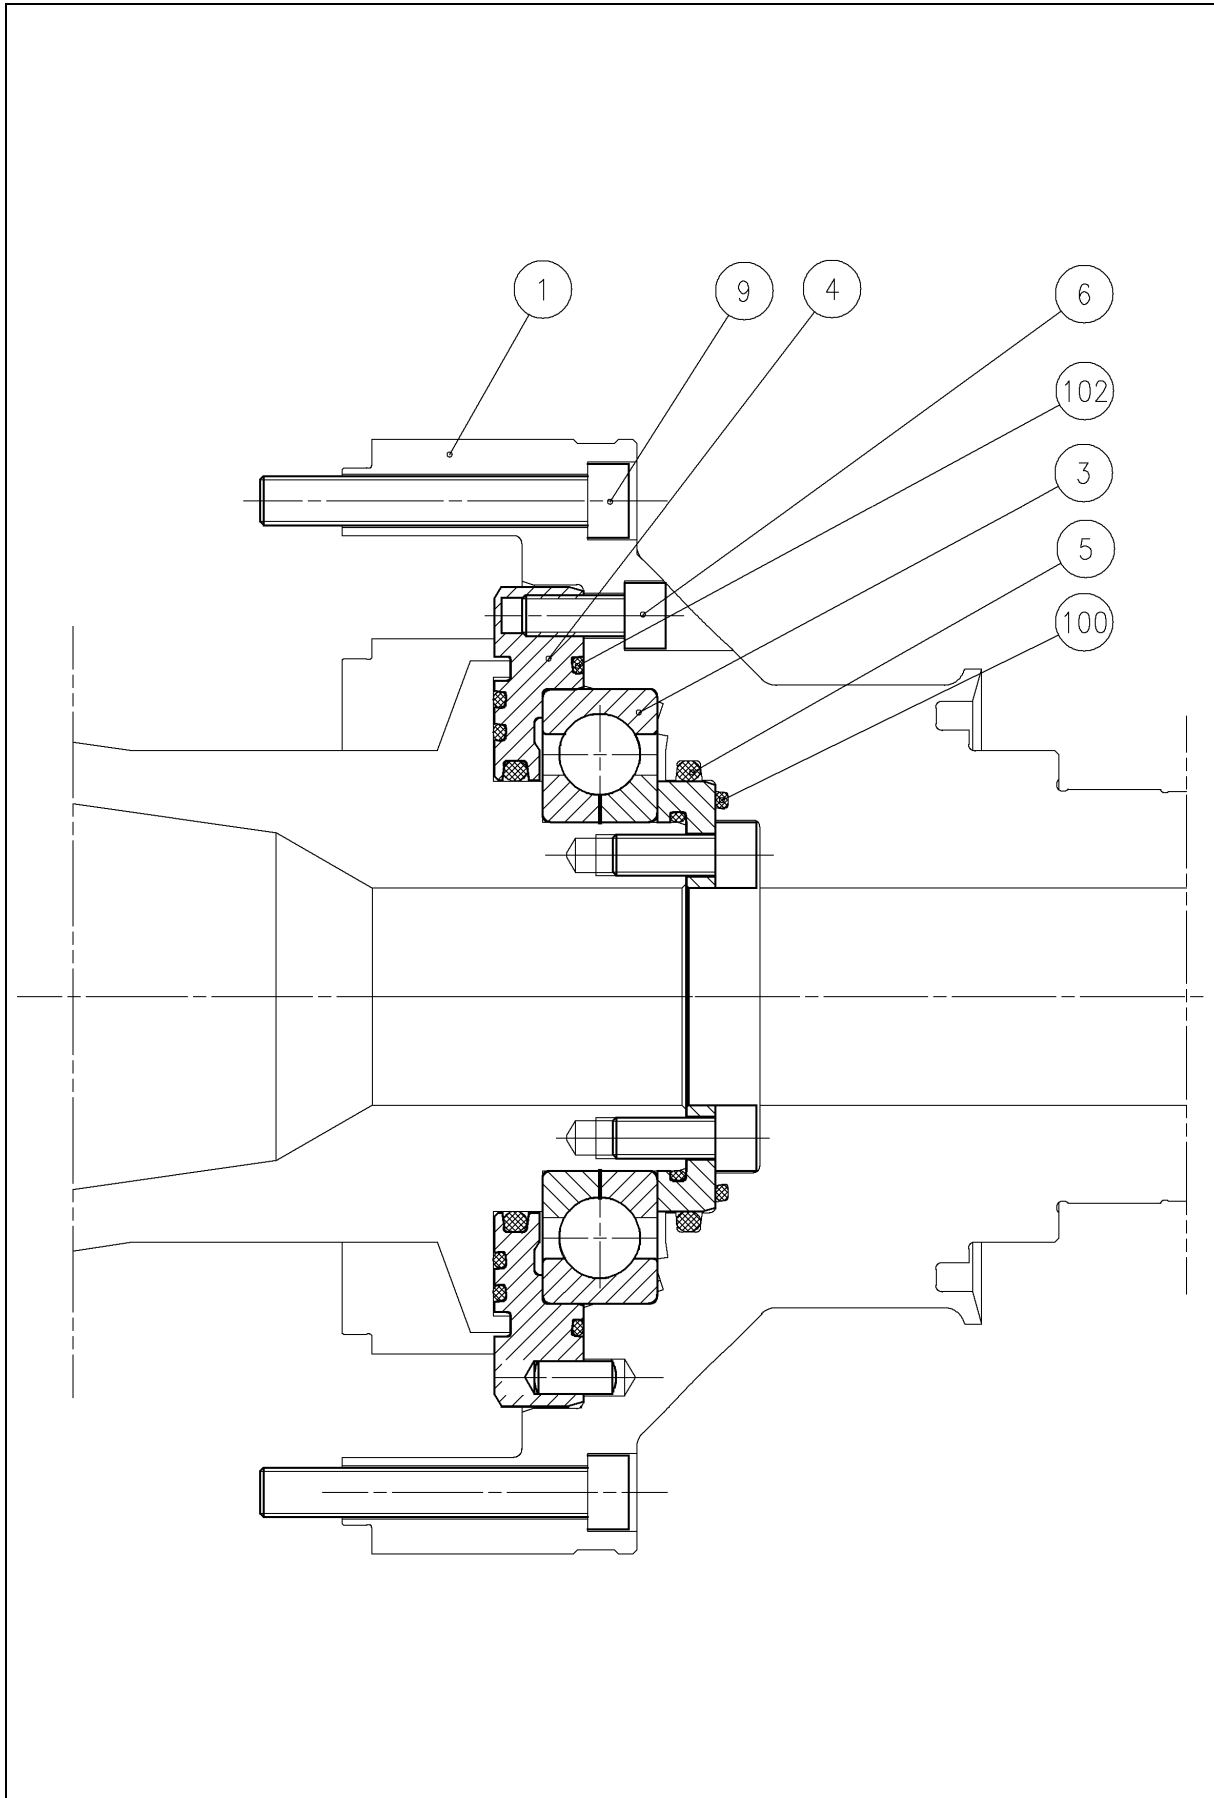

Figure 4.1.5
4.1.5 Remove Small End Hub (Fig. 4.1.5)
4.1.6 Install Small End Hub (Fig. 4.1.5)